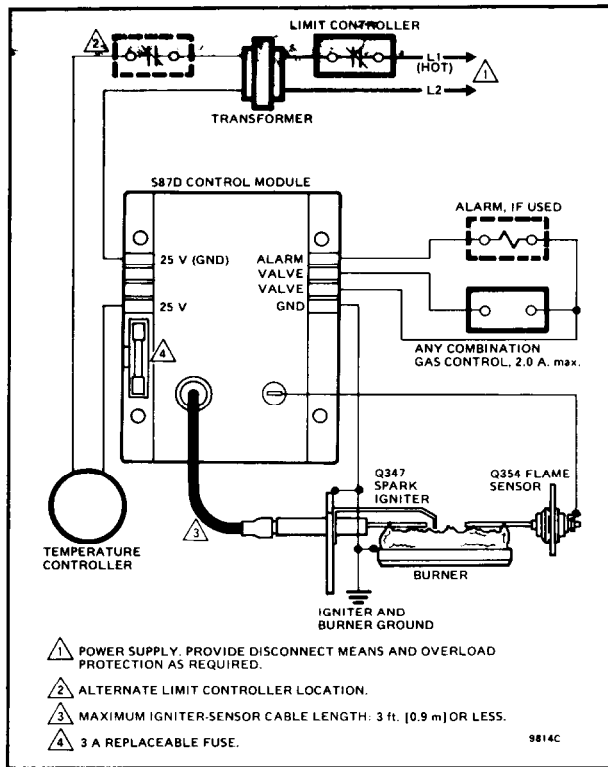

FIG. 4—WIRING HOOKUP FOR Y343B PACKAGE IN A TYPICAL DSI HEATING SYSTEM.
1. Connect the GND burner, quick-connect terminal on the S87D to one of the mounting screws on the Q347A as shown in Fig. 4. The S87 and Q347 must have a common ground. Use thermoplastic insulated wire with a minimum rating of 105 C [221 F] for the ground wire; asbestos insulation is not acceptable. If necessary, use a shield to protect the wire from radiant heat generated by the burner.
1. Male quick-connect terminals (1/4 in. [6.4 mm]) are provided on both the Q354 and S87D. Connect the SENSOR terminal on the S87D to the terminal on the Q354 as shown in Fig. 4. Use thermoplastic insulated wire with a minimum rating of 105 C [221 F] for the flame sensor leadwire; asbestos insulation is not acceptable.
Connect the system transformer, thermostat, high temperature limit controller, combination gas valve and alarm (if used) as shown in Fig. 4.